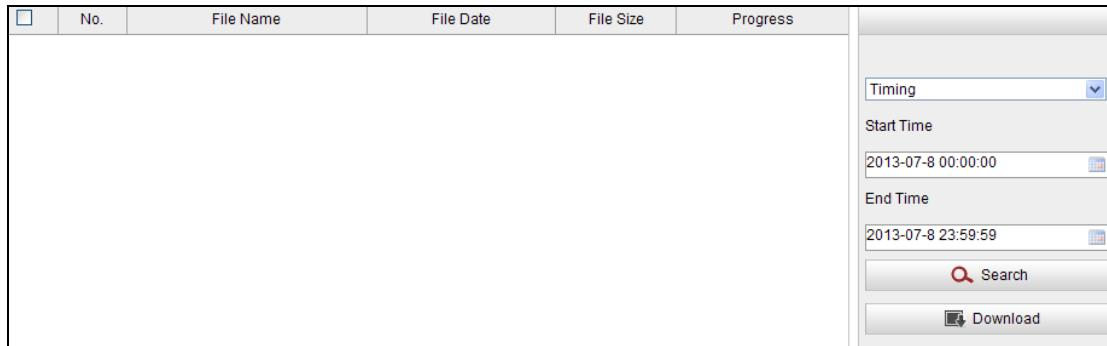

Figure 9-8 Picture Downloading interface
1. Click on the playback interface. The pop-up menu is shown in Figure 9-8.